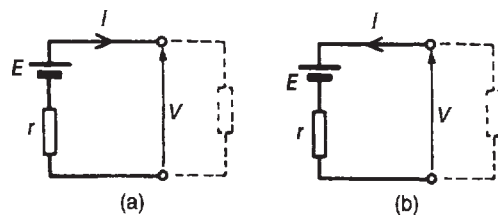

Figure 15.31
- (iii) For the circuit shown in Fig. 15.31(a) representing a practical source supplying energy, $V = E - Ir$, where E is the battery e.m.f., V is the battery terminal voltage and r is the internal resistance of the battery (as shown in Section 6.5). For the circuit shown in Fig. 15.31(b),